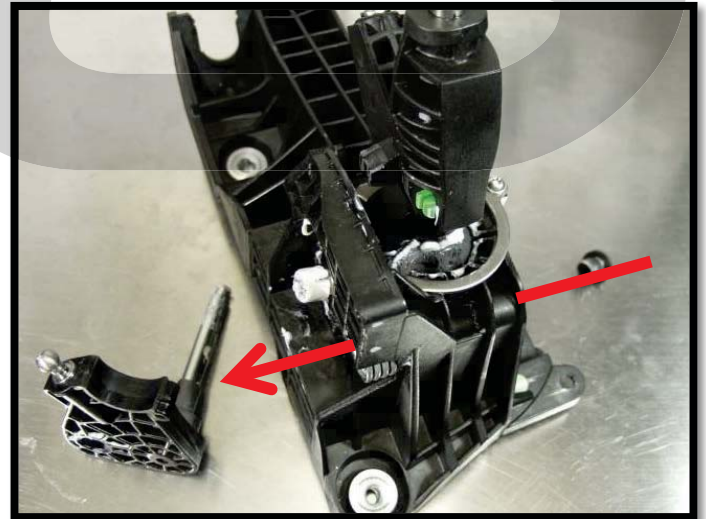

Figure 2b
- b) **Pull the side motion actuator out of the shifter housing** (Figure 2b).
- b) **Pull the side motion actuator out of the shifter housing (red arrow in Figure 2b).**